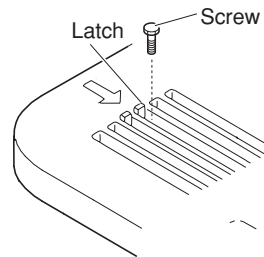

Fig. 9-3
- (1) Remove the air-intake grille and air filter from the ceiling panel. (Figs. 9-3, 9-4 and 9-5)
- a) Remove the 2 screws on the latch of the air-intake grille. (Fig. 9-3)